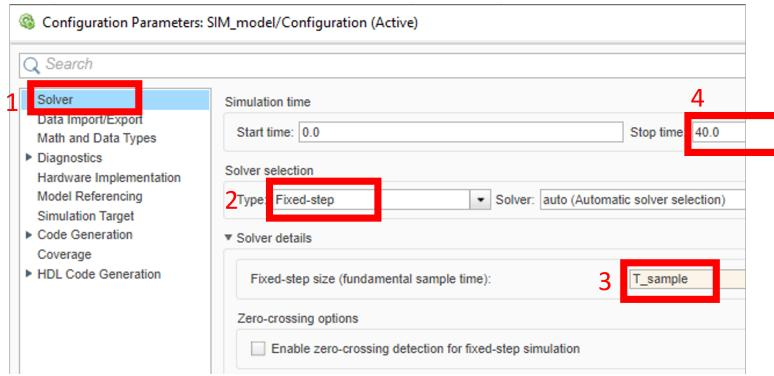

Figure 2: Open configuration parameters
6. Next, let's set the time step size. You may use the experimental data-set time step. Go to *Solver details* and set the *Fixed-step size* to **T_sample** (**Step 1-3** in Figure 2). Apply all your changes.
7. Set the simulation stop time to **40.0** (**Step 4** of Figure 2).